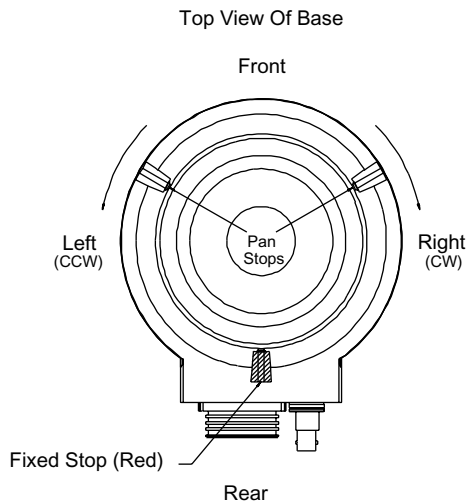

Figure 3: Pan Stop Locations (345° Models)
The two (2) pan stops are adjustable and secured with a set screw. The screws can be accessed through the hole in the end of each stop. Use a 3/32-inch Allen wrench (supplied) to loosen and tighten the set screw. See **Figure 3**.